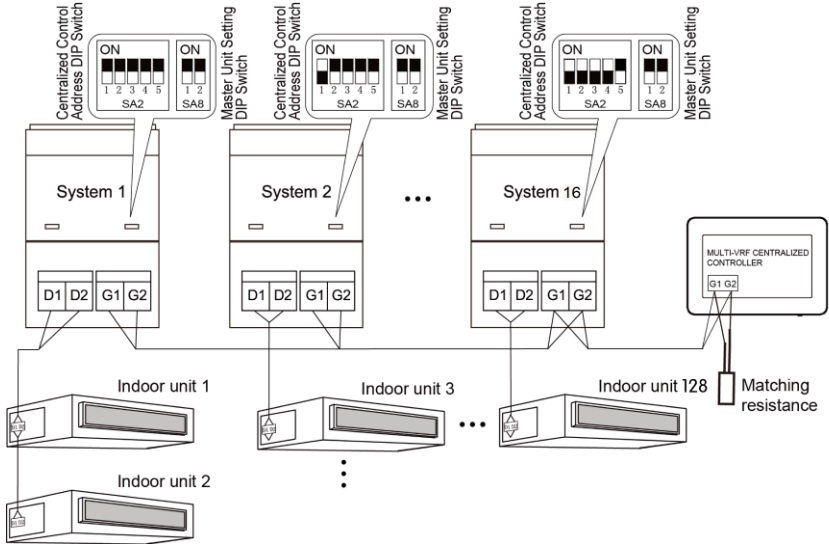
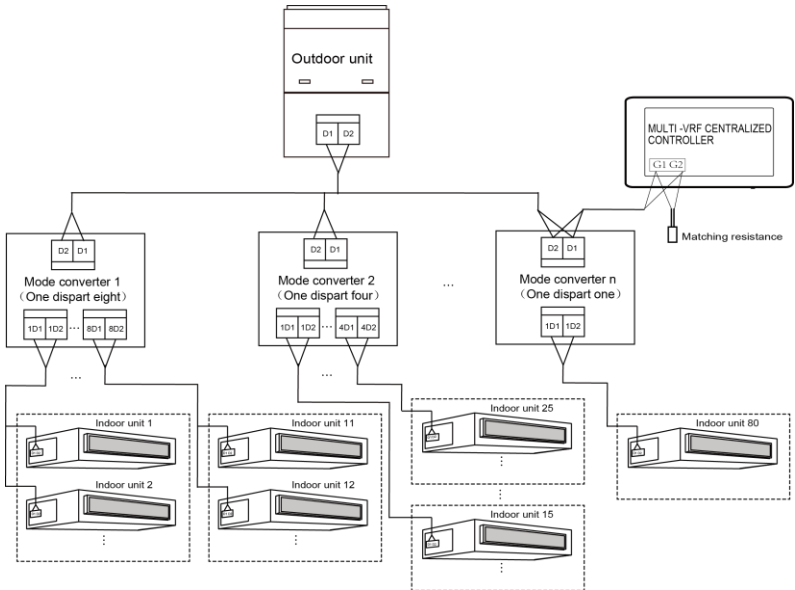

Fig.1.5 Centralized Controller Connected with Outdoor Network
Fig. 1.6 Centralized Controller Connected with Heat Recollection Mode Converter Network
- ② If the centralized controller is to be connected with the network of outdoor units, connect according to fig.1.5. The centralized controller can only be connected with the terminal system of the outdoor network. A matching resistance needs to be added with the communication cords at the G1 and G2 ports.
- ③ The centralized control address DIP switch (SA2\_Addr-CC) indicates the centralized control address required when different refrigerating systems are controlled in a centralized manner. The default factory setting is "00000".
- ④ If the centralized controller is to be connected with the network of heat recollection, connect according to Fig. 1.6. The method 2 is also applicable to centralized controller switching in heat recollection network.